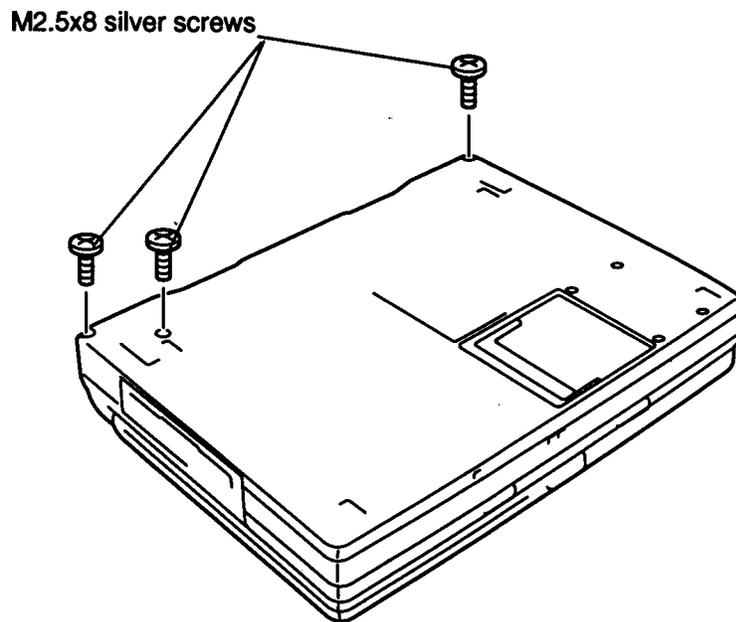

Figure 4-15 Removing the three screws
To remove the T2150 series top cover, follow the steps below and refer to figures 4-15 to 4-17.
3. Turn the computer over and remove **three M2.5x8 silver screws** securing the cover of the T2150 series (figure 4-15).
To install the T2150 series top cover, follow the steps below and refer to figures 4-15 to 4-17.
9. Secure the **three M2.5x8 silver screws** on the bottom of the computer (figure 4-15).